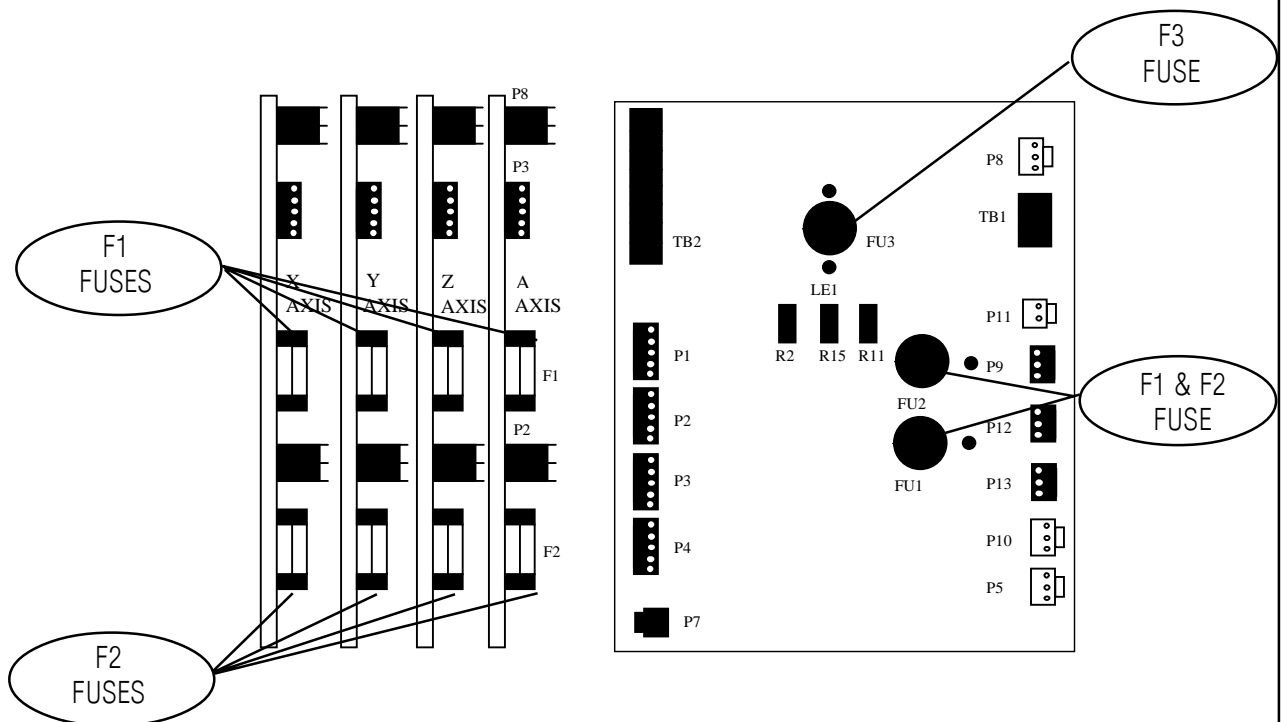

Fig 3-4 Servo Drive Assembly; fuse locations
3. On the SERVO DRIVE ASSEMBLY, there are three fuses on the SDIST panel, and three individual fuses on each of the SERVO DRIVE boards (See Fig. 3-4; the F3 fuses are not shown).